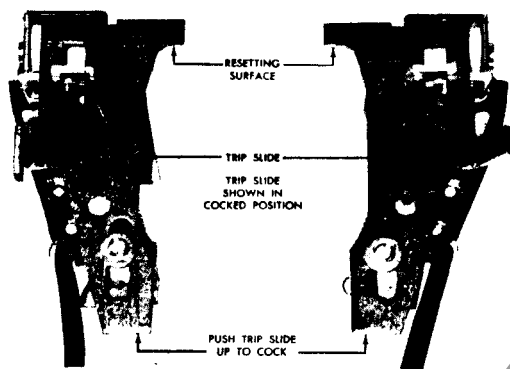

Fig. 1-R
2. For right side mounted device, Fig. 1-R:
3. For left side mounted device, Fig. 1-L:
- a. Cock the tripping mechanism of the shunt trip by pushing the trip slide toward the solenoid, as shown in Fig. 1-R or 1-L.